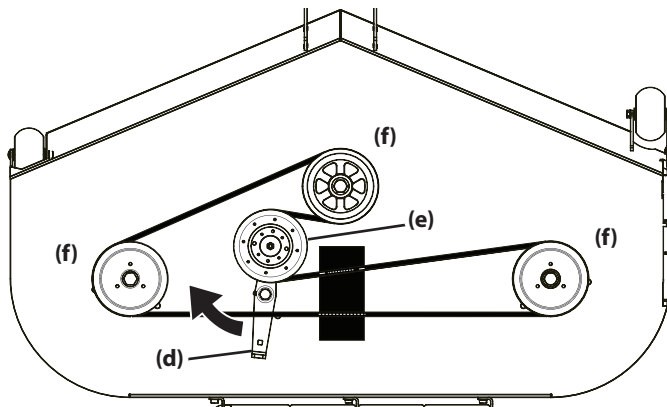

Figure 37
4. Using a 1/2" (12.7 mm) drive insert the end into the 1/2" (12.7 mm) square opening in the deck idler assembly (d) and rotate the deck idler assembly clockwise. See Figure 37.
6. Route the new belt around the idler pulley and the spindle pulleys as shown in Figure 37.